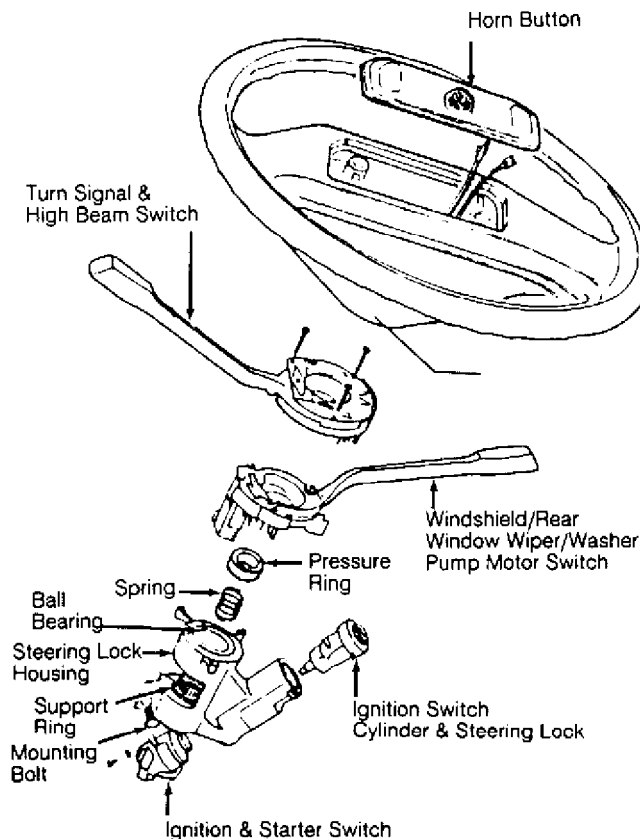

Fig. 4: Typical Steering Wheel Components (Without Air Bag - Fox Shown; Others Are Similar)
3) Place springs, contacts, horn or cruise control harness connectors and screws in order for reassembly reference. See Fig. 4. Place wheels in straight-ahead position.